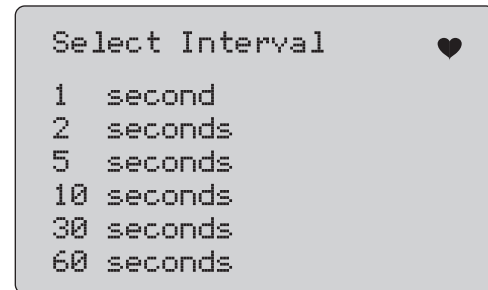

Figure 49. Logging Interval Screen
4. Select the logging interval. See Figure 49.